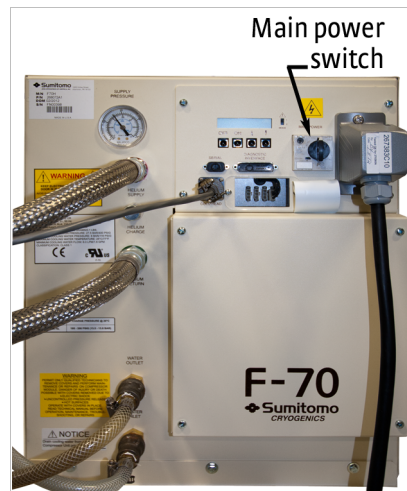

FIGURE 4-10 CCR compressor panel
CCR operation is controlled by the switches located on the CCR compressor control panel shown in FIGURE 4-10. The default off settings for the various CCR controls are listed in TABLE 4-1. The compressor supply and return pressures vary according to the heat load presented to the cold head. During operation, typical supply helium gas pressure is between 1.8 MPa and 2.3 MPa (261 to 334 psig). Refer to the SRDK Cryocooler Operation Manual for additional information about admissible operating pressure ranges outside these typical values.
1. Turn on the main power switch (FIGURE 4-10).